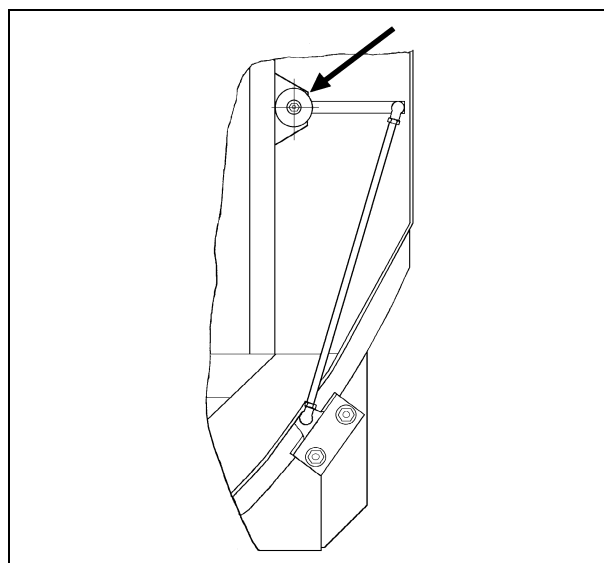

Fig. 15
Note: At a cutting height of more than approx. 25 cm (ground sensors (1) clear of the ground), the control of the table is taken over by the sensor on the crop elevator (Fig. 15), until the cutting height is again less than 25 cm.